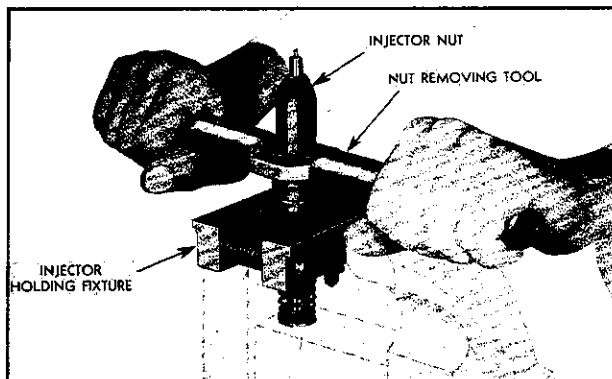

Fig. 9—Removing Injector Nut with Tool J-1238 and J-1261.
1. Clamp the injector in the holding fixture, J-1261, and using wrench J-1238, as illustrated in Fig. 9, loosen nut from injector body.
5. Invert the injector in the holding fixture, unscrew the nut as shown in Fig. 9 and lift away from the injector body, being careful not to dislodge the spray tip and the other small parts resting on the end of the plunger bushing.
- (d) Invert the injector assembly in the holding fixture, Tool No. J-1261, and by means of the special wrench, J-1238, shown in Fig. 9, screw nut (X) tight. Check for free movement of the injector control rack. Holding the injector in a horizontal position, the rack must fall by its own weight if plunger and bushing are properly assembled.